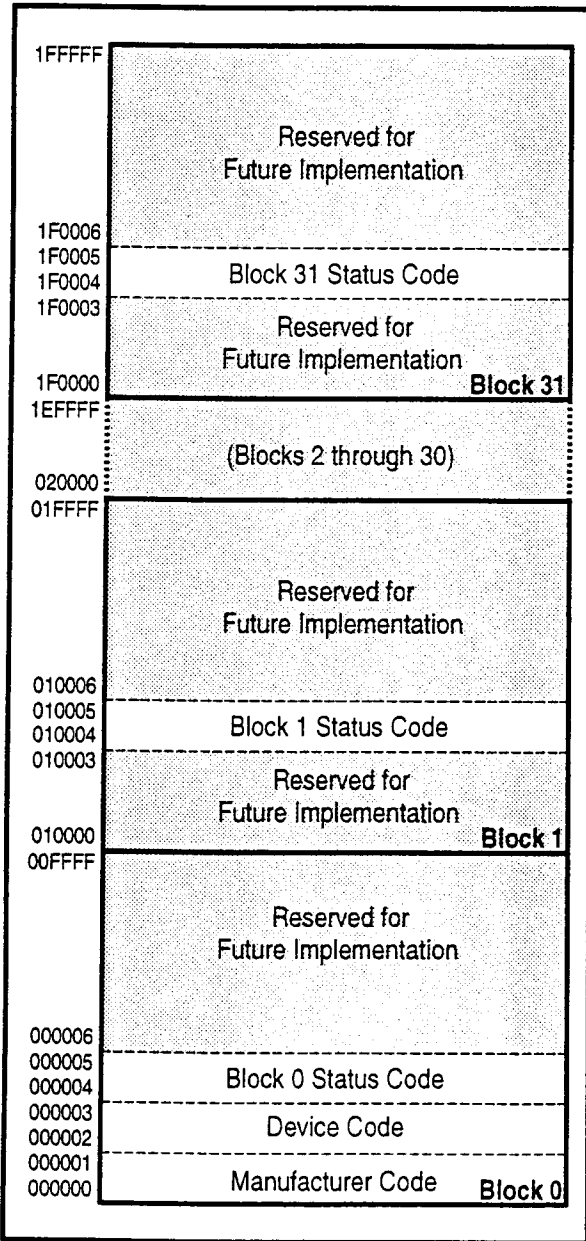

Figure 8. Device Identifier Code Memory Map
The read identifier codes operation outputs the manufacturer code, device code, block status codes for each block (see Figure 8). Using the manufacturer and device codes, the system CPU can automatically match the device with its proper algorithms. The block status codes identify locked or unlocked block setting and erase completed or erase uncompleted condition.
IA=Identifier Code Address: see Figure 8.
The identifier code operation is initiated by writing the Read Identifier Codes command. Following the command write, read cycles from addresses shown in Figure 8 retrieve the manufacturer, device, block lock configuration and block erase status (see Table 5 for identifier code values). To terminate the operation, write another valid command. Like the Read Array command, the Read Identifier Codes command functions independently of the  $V_{PP}$  voltage and RP# must be  $V_{IH}$ . Following the Read Identifier Codes command, the following information can be read:
1. X selects the specific block status code to be read. See Figure 8 for the device identifier code memory map.